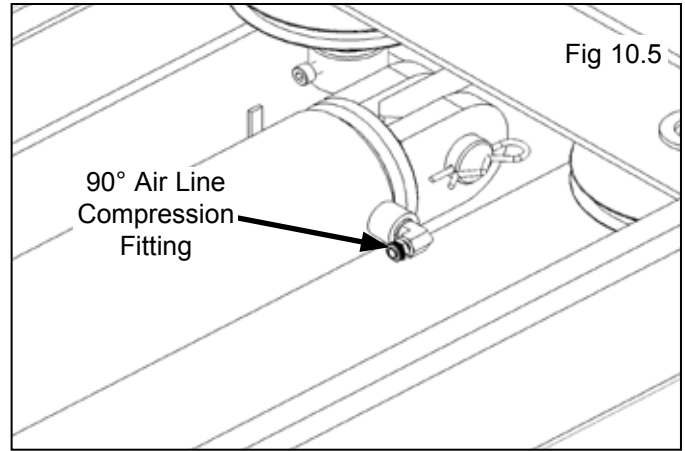

Fig 10.5
4. Install the 90-degree Air Line Compression Fitting in the port at the base, pinned end of the Cylinder. On the pipe thread side of the Fitting, it is recommended to use Teflon Tape or pipe sealer. (See Fig. 10.5)